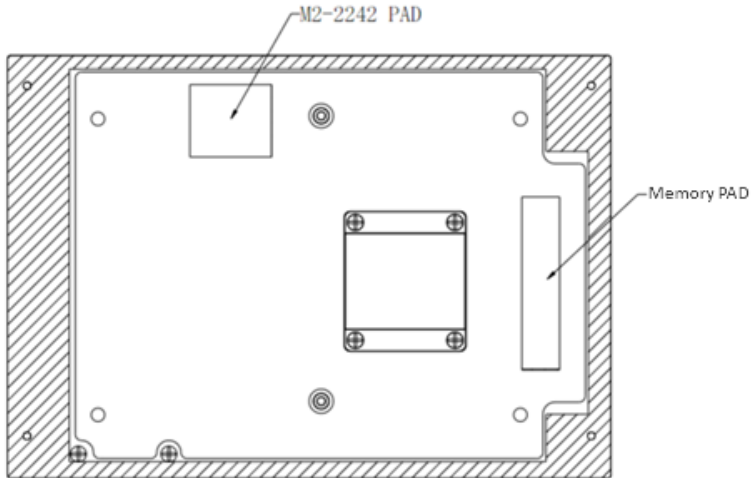

Figure 3.2-4
4. Apply the memory thermal PAD and M.2 thermal PAD to the anode; Buckle the chassis module onto the aluminum extrusion; The memory thermal PAD and M.2 thermal PAD are removed from the aluminum extrusion respectively as shown in Figure 3.2-4.